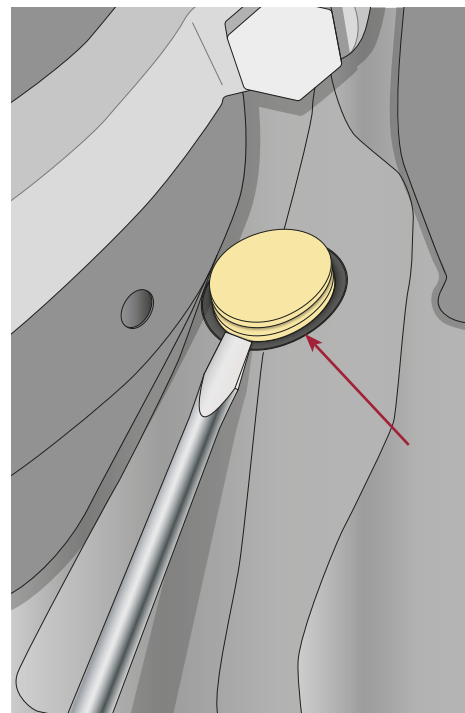

Figure 138: Remove Adjuster Plug Without Damaging Boot
2. Carefully remove the adjuster plug from the back of the calliper. Ensure that you do not damage the surrounding adjuster boot. Refer Figure 138.